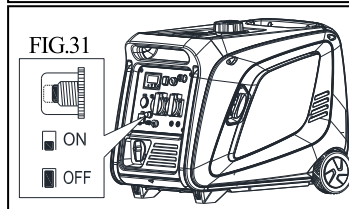

FIG.31
- (c) The DC circuit protector is to be set to **ON** after confirming the connection, if the protector is in **OFF** position. **FIG.31**